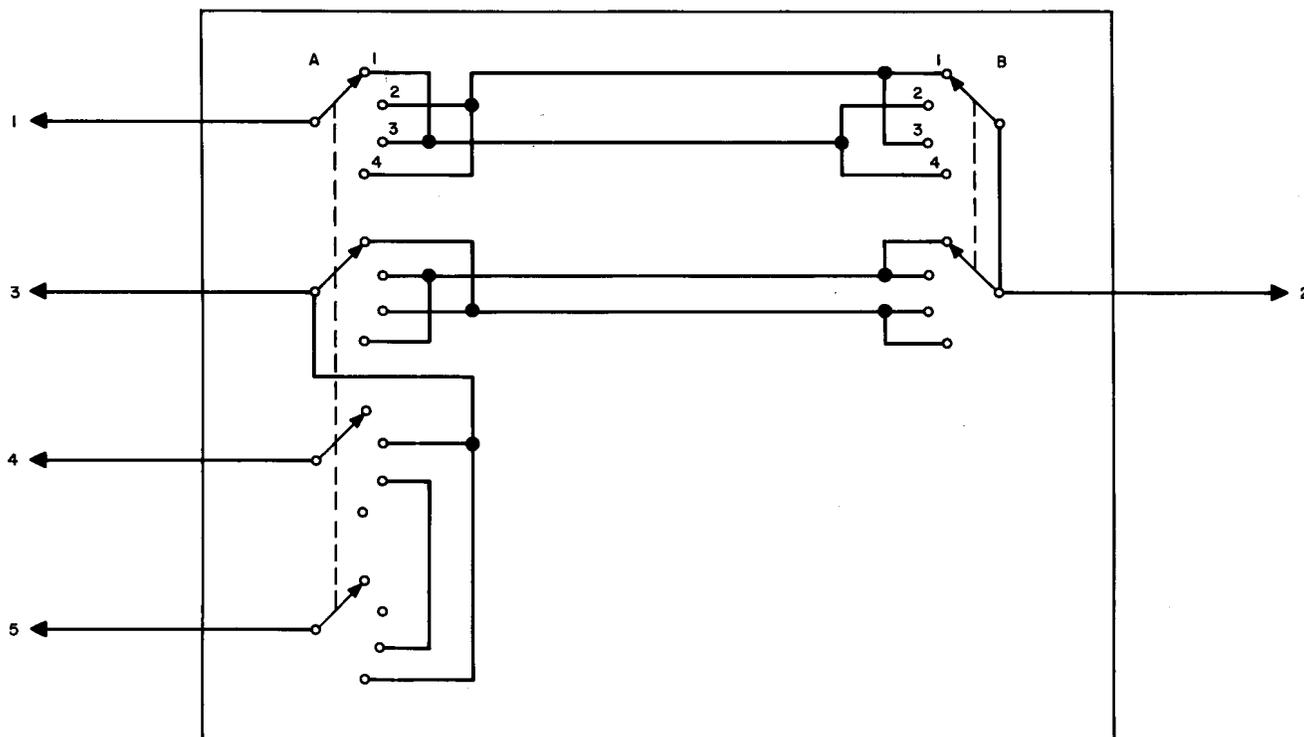

Fig. 19A — Automatic Gain Control 2 Test Set
- 1 — Test set such as shown in Fig. 19A.
(2) Five numbered strapping pins are located on the AGC2 circuit pack. This section of the test will determine which pins, if any, are to be strapped. Connect the test set shown in Fig. 19A to the five strapping pins located on the AGC2 circuit pack. Set both switches to position 1.